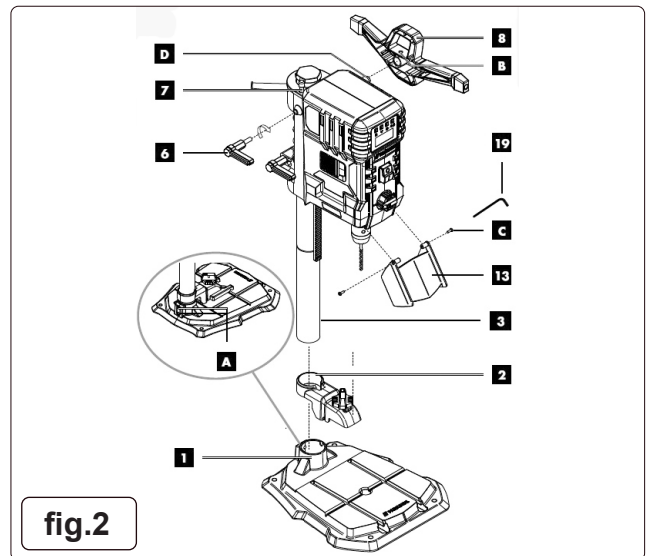

fig.2
### 5.1. ASSEMBLING THE BASE PLATE AND COLUMN (fig.2)
### 5.3. FITTING THE CHUCK GUARD (FIG.2)
### 5.4. HANDLE FITMENT (fig.2)
- 5.4.1. Slide the handle (8) onto the retainer (D) as shown in fig.2.
### 5.5. FITTING THE DEPTH STOP (fig.2)
### 5.6. CLAMPING LEVER FOR DEPTH STOP ASSEMBLY (fig. 2)
- 5.6.1. Assemble the clamping lever for depth stop (6) as shown in fig.2.